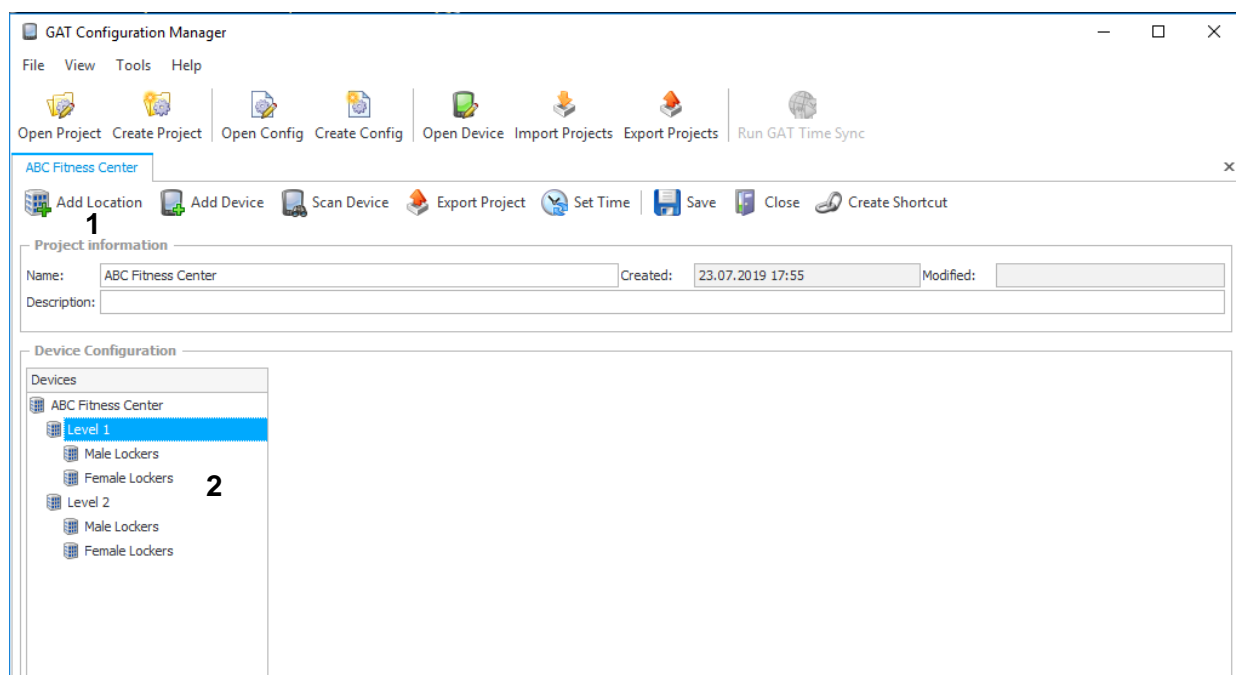

Figure 5.2 – GAT Config Manager – Add location
- ▶ Once a project is established, locations and sub-locations for the project can be added to the “Devices” directory (2 in Figure 5.2) by clicking on the “Add location” button (1 in Figure 5.2).